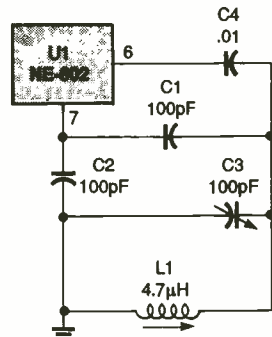
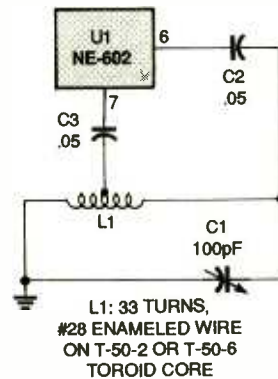

Fig. 5. In this Colpitts variable-frequency oscillator (VFO) an inductor/capacitor combination is used to set the frequency.
Fig. 6. In this Hartley VFO, feedback is provided via a tap on the inductor.
A pair of variable-frequency-oscillator (VFO) circuits are shown in Figs. 5
and 6. The circuit in Fig. 5 is a Colpitts oscillator, while Fig. 6 shows a Hartley oscillator. In both oscillators, the resonating element is an inductor/capacitor-(LC) tuned resonant circuit. In Fig. 5, however, the feedback network is a tapped, capacitor voltage divider, while in Fig. 6 it is a tap on the resonating inductor. In both cases, a DC blocking capacitor at pin 6 is needed in order to prevent the oscillator from being DC-grounded through the resistance of the inductor.
Like most mysteries or magic events, something important must be hidden from view to effectively produce an illusion. That "something" is exposed in the circuit diagram in Fig. 6. Four diodes are connected, as shown, one across each of the components, and are hidden from view under the components.